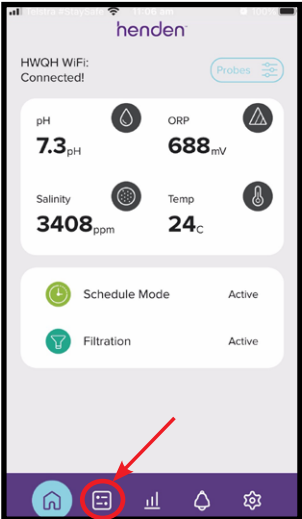

Figure 9.54
- From the dashboard, go to the “modes” menu by using the modes button (refer Figure 9.54).